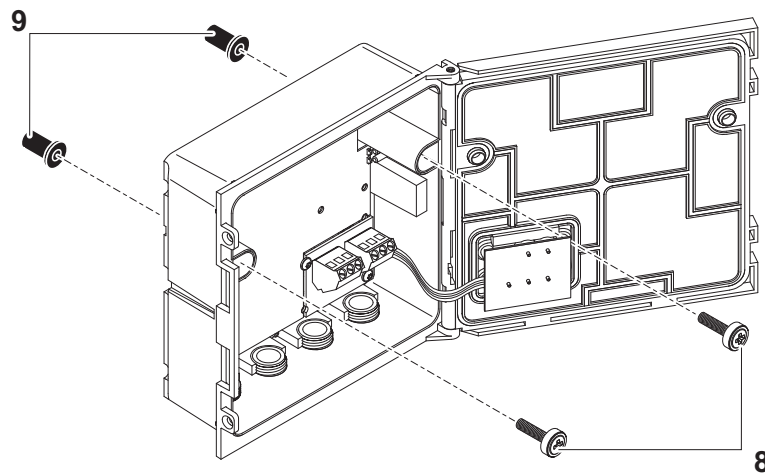

Fig. 3-6 Premounting the ISO blind nuts (variant 1)
| 6 | Insert the cheese-head screws (pos. 8 in Fig. 3-6) with the plastic washers in the drilled mounting holes in the enclosure and loosely screw in the ISO blind nuts (pos. 9). |
| 7 | Attach the prepared MIQ module to the lid of the back MIQ module. At the same time, ensure that the two clips on the front MIQ module click into place in the lid of the back MIQ module. Subsequently, tighten the two screws (pos. 8 in Fig. 3-6). |